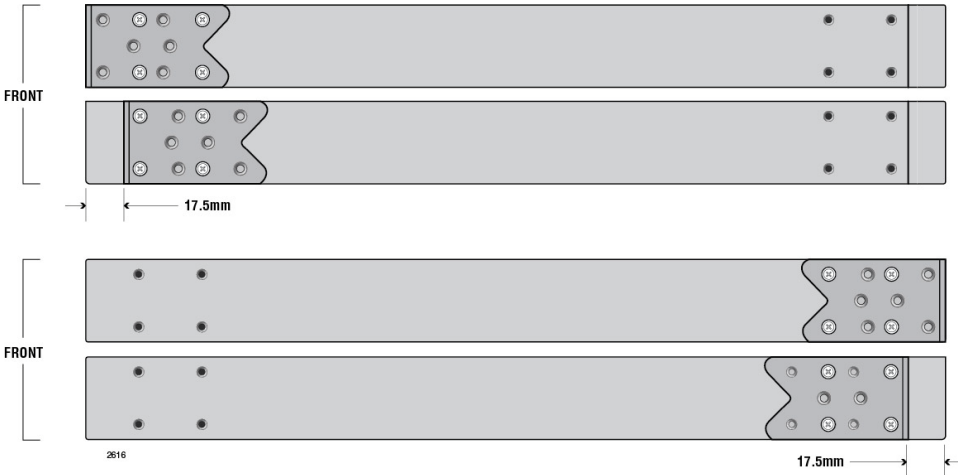
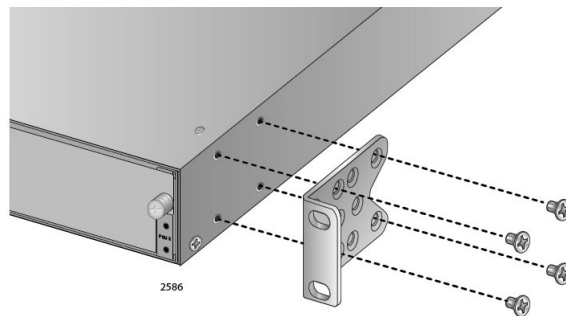

Figure 21. Possible Bracket Locations
Figure 22. Attaching the Brackets to Switch
These four possible bracket locations are illustrated in Figure 21.
1. Secure the two rack mount brackets to the sides of the switch using the eight bracket screws provided. Figure 22 shows an example of mounting the rack mount bracket on the rear of the chassis and with the bracket flush to the rear panel. See Figure 21 on page 59 for other possible bracket mounting positions on the chassis.